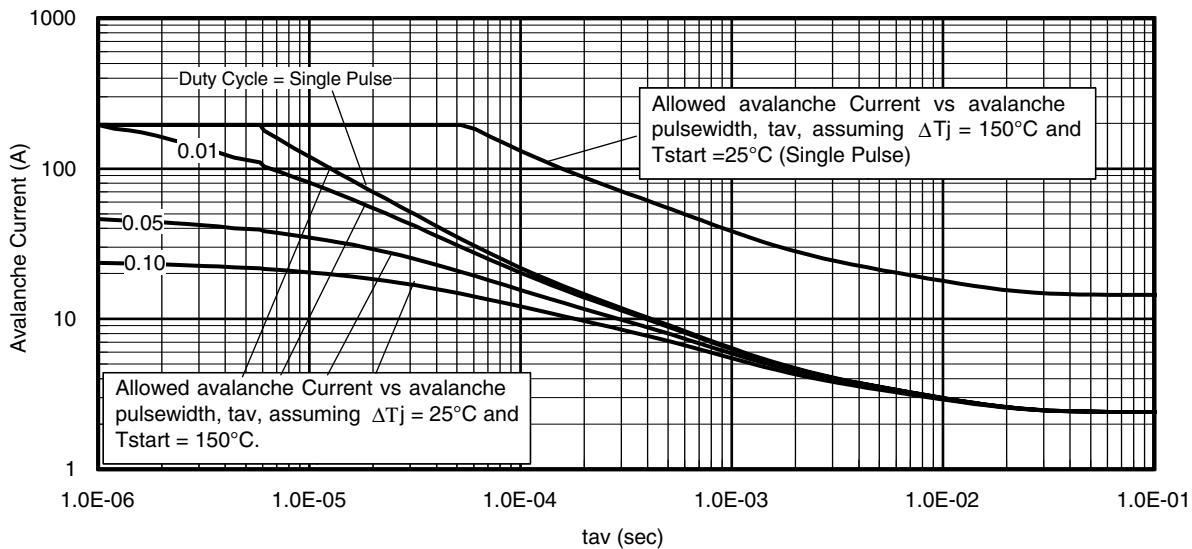

Fig 14. Typical Avalanche Current vs.Pulsewidth
| I_{AR} | Avalanche Current ② | See Fig. 14, 15, 22a, 22b | A |
Notes on Repetitive Avalanche Curves , Figures 14, 15:
7. ΔT = Allowable rise in junction temperature, not to exceed T_{jmax} (assumed as 25°C in Figure 14, 15).